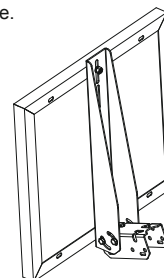

figure 1
Step1. Assemble the components and parts together according to **figure 1**. We suggest you lubricate all nuts and bolts to facilitate easy removal at a later date.